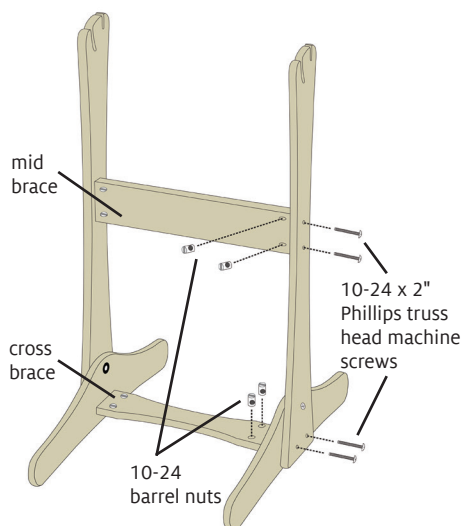

FIGURE 5: ATTACH LEGS TO CROSS BRACE
4. Place 10-24 barrel nuts in the holes at one end of the cross brace and mid brace (Figure 5). Turn the barrel nuts so that the slots in their tops are parallel to the long edge of the braces. Hold the barrel nuts in place with masking tape.
5. Attach the cross brace: Insert two 10-24 x 2" Phillips truss head machine screws through a leg and base, using the holes closest to the bottom (Figure 5). Make sure each screw goes through the leg first and then through the base. Position one end of the cross brace against the leg and base, so that screws go into the barrel nuts. Tighten the screws into the barrel nuts.
6. Attach the mid brace: Insert two 10-24 x 2" Phillips truss head machine screws through the leg, then into barrel nuts in the mid brace (Figure 5). Tighten the screws into the barrel nuts.
On a correctly assembled stand, the slanted tops of the legs angle in the same direction and the bottoms of the legs sit **outside** of the bases and the cross brace, as in Figure 5. Look at the tops of the legs to identify the front of the stand: the long curved slots mark the front and the short straight slots indicate the back.